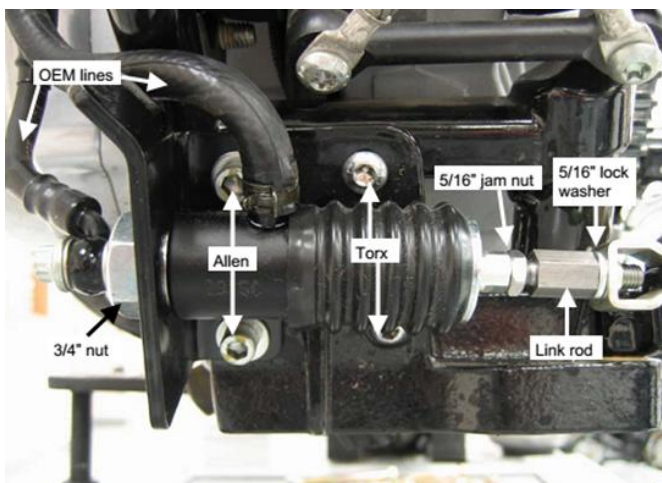

Figure 13
- Install master cylinder bracket to frame using two 5/16" flat washers behind bracket on LHS. Using Loctite 262, install the original Allen head bolts on LHS and original Torx head bolts on RHS. Torque to 22 ft-lbs. See Figure 13.